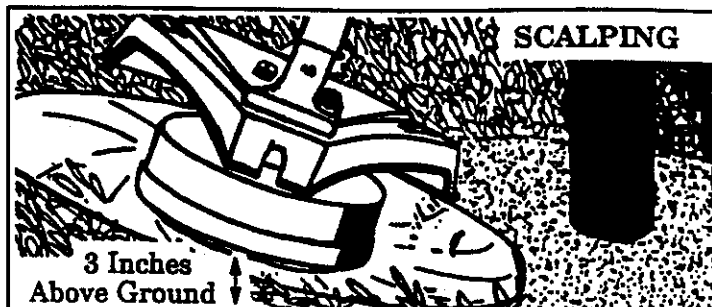

Figure 18
2. **SCALPING** - FIGURE 18. The scalping technique removes unwanted vegetation. Hold the bottom of the trimmer head about 3 inches above the ground and at an angle. Allow the tip of the line to strike the ground around trees, posts, monuments, etc. *This technique increases line wear.*